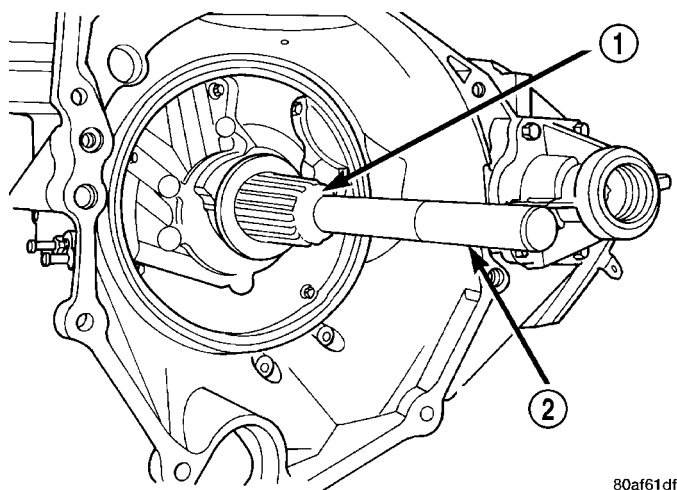

Fig. 266 Install Oil Pump Seal
(1) Using Tool C-4193, install oil pump seal (Fig. 266).